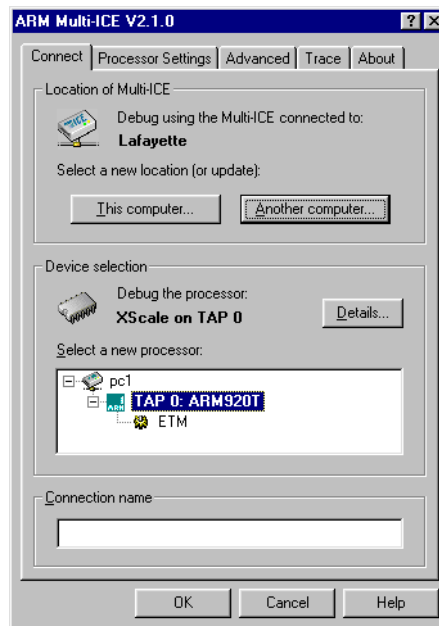

Figure B-2 Multi-ICE configuration dialog box
4. Click **Configure** to show the ARM Multi-ICE 2.0.1 configuration dialog box (Figure B-2 on page B-4).
4. Click **Configure** to show the ARM Multi-ICE 2.1 configuration dialog box (Figure B-2 on page B-4).